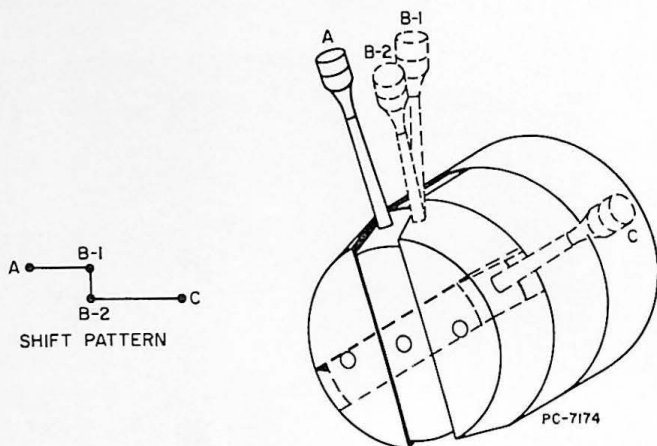

Figure 52
1. Rapid retraction of the wheelhead, position "A" (Figure 52).
To slow the rapid wheelhead advance or to stop it entirely just move the lever to the rear toward the machine (Figure 52), or let go of the hand servo lever and a spring will return the lever to stop position "B-1".
When the maximum position "C", 90 degrees to the right, is reached, the infeed movement will be completed and the work diameter will be to size. To retract the wheelhead to its starting position just return the lever to its starting or retracted position "A" (Figure 52).